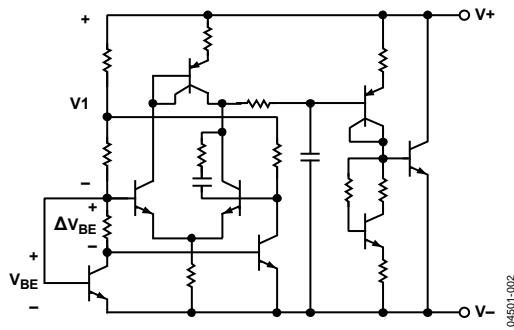

Figure 14. Circuit Schematic
The ADR525/ADR530/ADR550 use the band gap concept to produce a stable, low temperature coefficient voltage reference suitable for high accuracy data acquisition components and systems. The devices use the physical nature of a silicon transistor base-emitter voltage (V_{BE}) in the forward-biased operating region. All such transistors have approximately a $-2\text{ mV}/^{\circ}\text{C}$ temperature coefficient (TC), making them unsuitable for direct use as low temperature coefficient references. Extrapolation of the temperature characteristics of any one of these devices to absolute zero (with the collector current proportional to the absolute temperature), however, reveals that its V_{BE} approaches approximately the silicon band gap voltage. Thus, if a voltage develops with an opposing temperature coefficient to sum the V_{BE} , a zero temperature coefficient reference results. The ADR525/ADR530/ADR550 circuit shown in Figure 14 provides such a compensating voltage (V_1) by driving two transistors at different current densities and amplifying the resultant V_{BE} difference (ΔV_{BE} , which has a positive temperature coefficient). The sum of V_{BE} and V_1 provides a stable voltage reference over temperature.